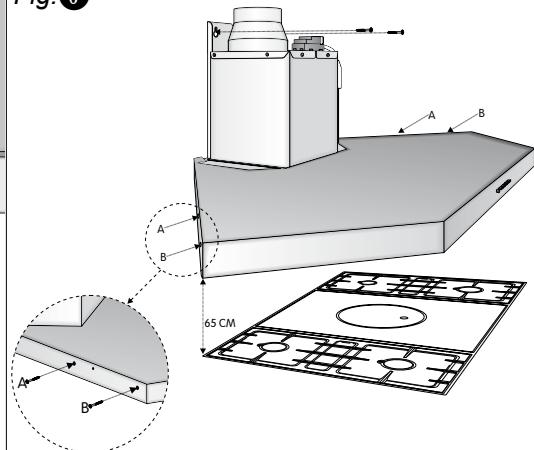

Fig. 7
- Fix the box support bracket to the wall using the 2 screws supplied. (**Fig. 7**)